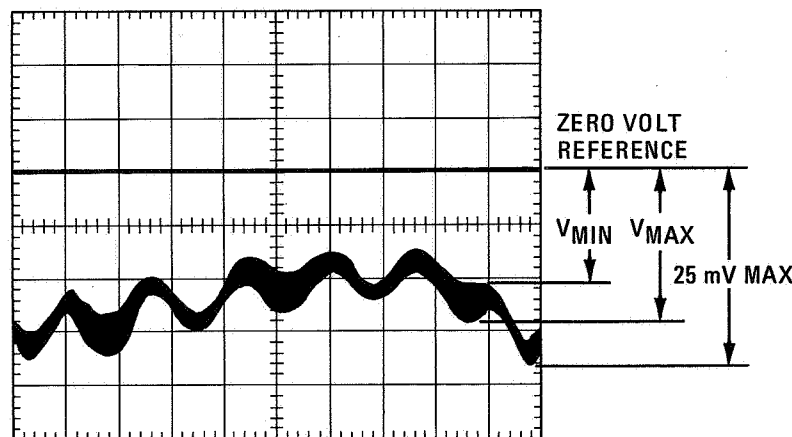

Figure 4-12. Typical Low Frequency Swept VSWR Measurement.
4. Select several points on trace and calculate V MAX/V MIN (see Figure 4-12).